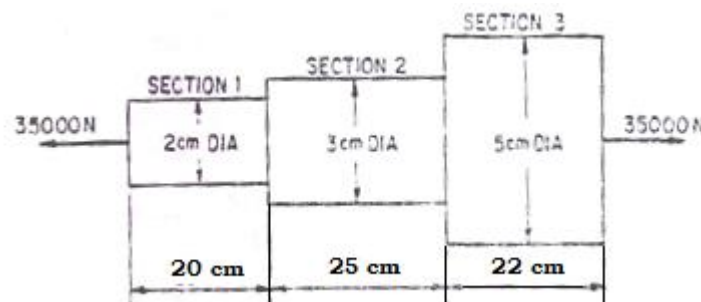

Fig.1
1. Axial pull of 35000 N is acting on a bar consisting of three lengths as shown in Fig. 1. If the Young's modulus = $2.1 \times 10^5 \text{ N/mm}^2$, determine: (12M)